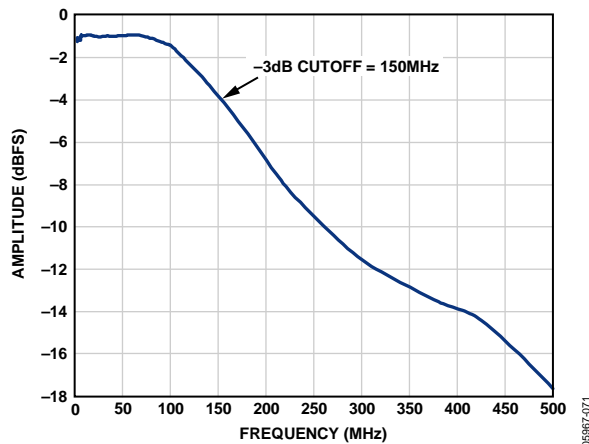

Figure 87. Evaluation Board Full-Power Bandwidth, AD9222-50
- **AIN:** The evaluation board is set up for a transformer-coupled analog input with an optimum 50 Ω impedance match of 150 MHz of bandwidth (see Figure 87). For more bandwidth response, the differential capacitor across the analog inputs can be changed or removed. The common mode of the analog inputs is developed from the center tap of the transformer or AVDD_DUT/2.